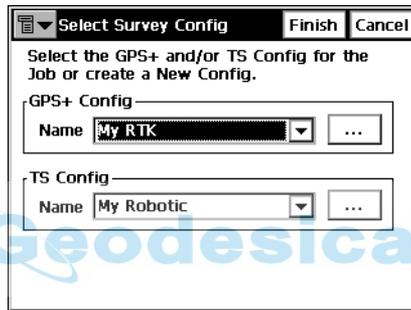

Figure 2-36. Select a Survey Configuration
3. Click **Job->Config->Survey** to open the Select Survey Config dialog box (Figure 2-36).
4. From the GPS+ Config drop-down list, select My RTK, or the name of your GPS+ survey configuration, and click the **browse** (“...”) button (Figure 2-36).